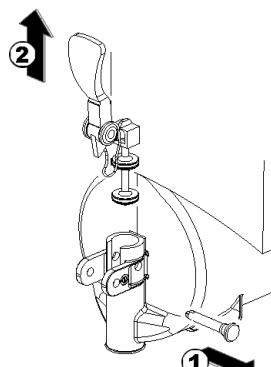

figure 10
- Dismantle the faucet assembly (see figure 10).
- 3 Assemble the faucet by reversing the disassembly steps (see figure 10)